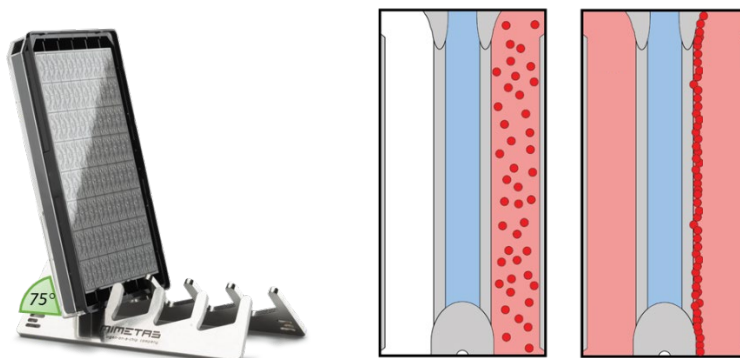

Figure 6: Incubate OrganoPlate® on the side to allow cells to attach to the ECM gel.
8. Place the OrganoPlate® on its side in the MIMETAS plate stand for 3-4 hours in the incubator to allow the cells in the perfusion channel to settle onto the ECM gel and attach (see figure 6).